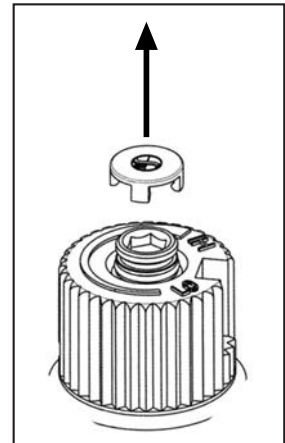

Figure 13: Removing valve cap.
- a) Remove the black protection cap from the HI/LO knob by hand shown in Figure 13.
- g) Re-attach the black protection cap that was removed in step a (Figure 13).